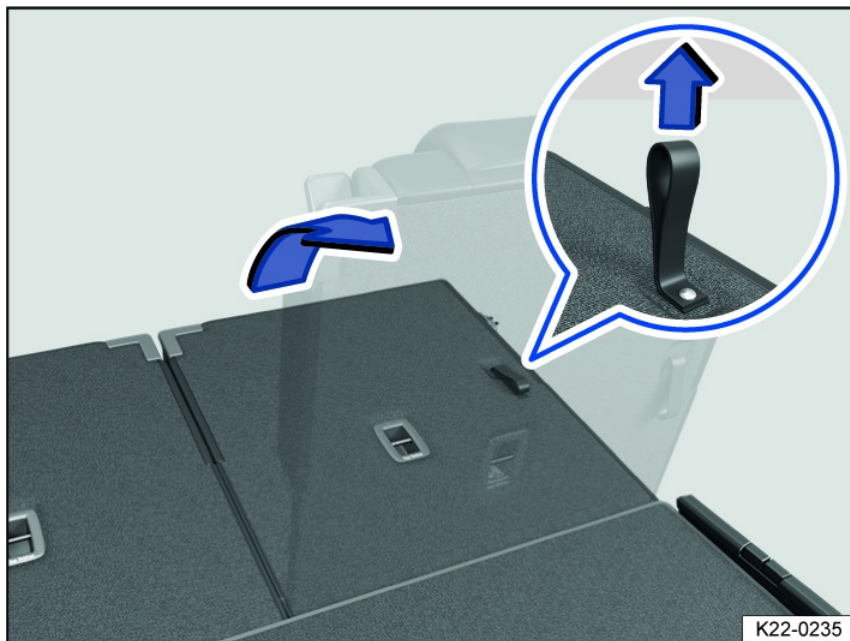

Fig. 87 Third row seat: folding the rear seat back.
3. To fold the rear seat backrest back, pull on the loop on the rear seat backrest *fig. 87*.